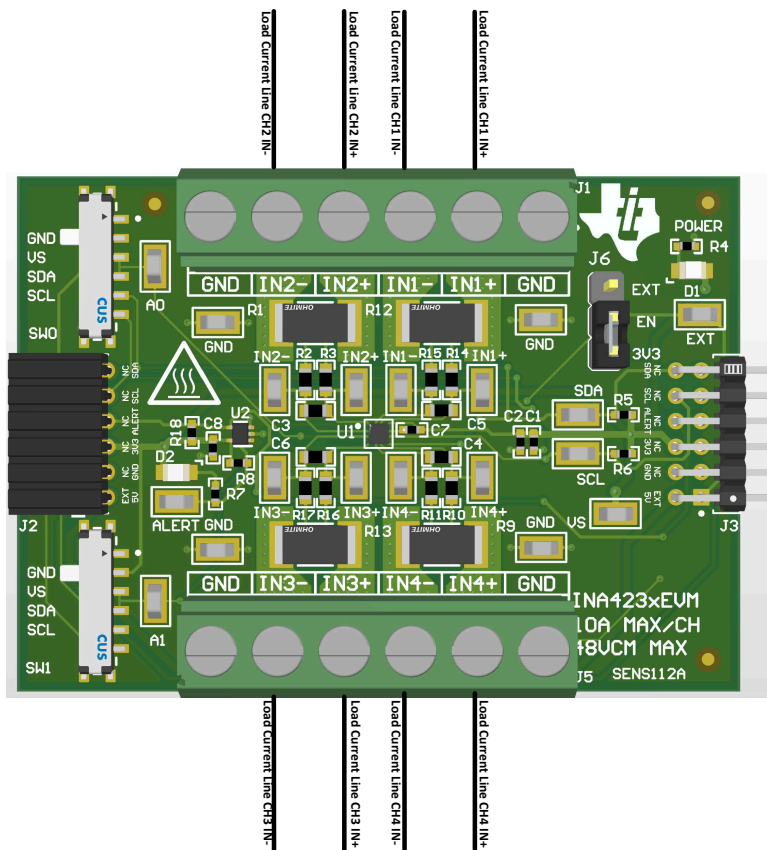

Figure 2-4. IN+ and IN- Wiring for 10A or Less
- Solder a 2512 resistor across the pads of R1, R12, R13, or R9 that connects the IN+ and IN- inputs as shown in Figure 2-4.